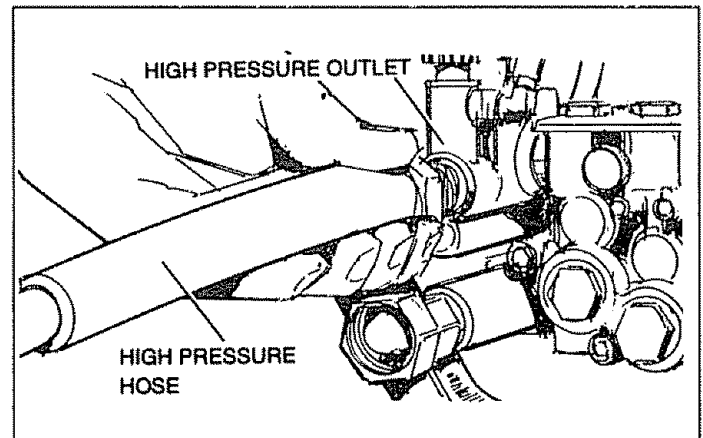

FIG. 7
- Attach the other end of the high pressure hose to high pressure fitting on pump (Fig. 7). Tighten with 15/16" (24mm) wrench.